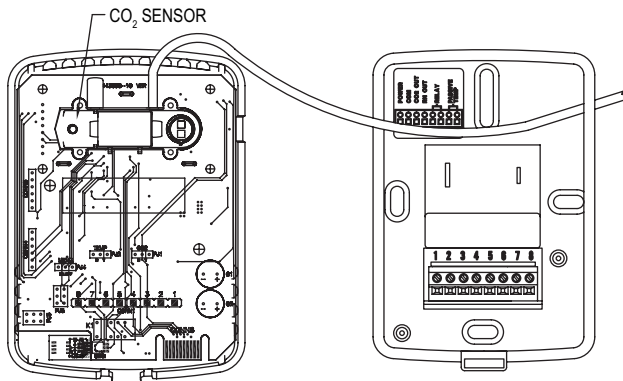

Figure 7: Calibration
- Step 2: Slide the calibration tubing through the slots on the back plate and attach to one of the nipples on the CO2 sensor (See Figure 7).